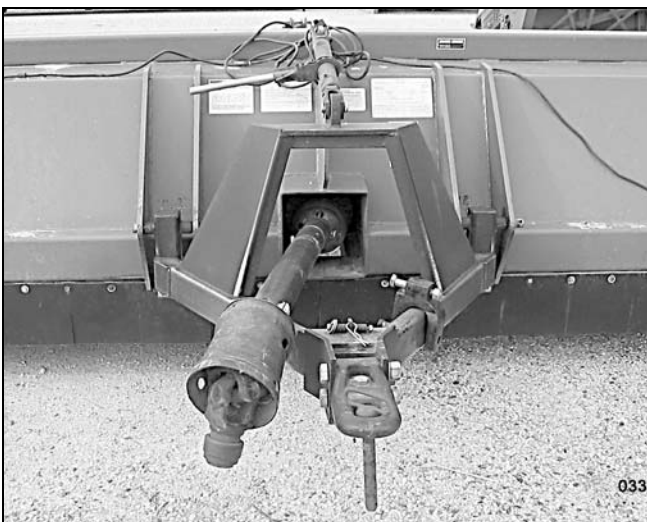

Figure 7. Attaching to Pull-Type Model
1. Use the ratchet (see Figure 7) on top of the hitch to set the hitch height.